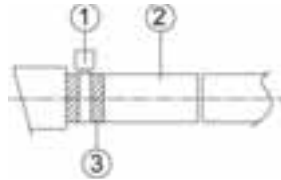
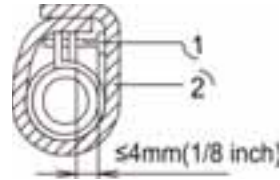

Fig 4.3.2
Fig 4.3.3
- (1) Insert the drain hose into the drain hole and tighten it with tapes, as shown in Fig 4.3.2.
- (2) Tighten the pipe clamp, with the distance between screw nut and hose smaller than 4mm (1/8inch).
- ① metal clamp(accessory)
- ② drain hose(accessory)
- (3) Use sealing plate to insulate the pipe clamp and hose, as shown in Fig. 4.3.3.
- ② thermal sponge(accessory)